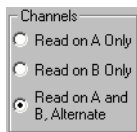

Figure 14-15: Enroll Cards - Channels Field
- In the “Channels” field, select the reader or keypad channel to be used for enrollment. There are three options available; “A” reader, “B” reader, or both readers used alternately. For this example it is assumed that the “A” reader is a Wiegand card reader (and will be used as the Primary ID), and the “B” reader is a keypad (and will be used as the Secondary ID). See Figure 14-15.